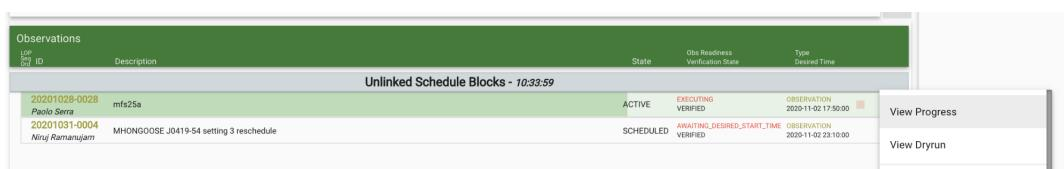

Figure 9.6: Observation progress log
- Tail the observation progress, see **Figure 9.6**.